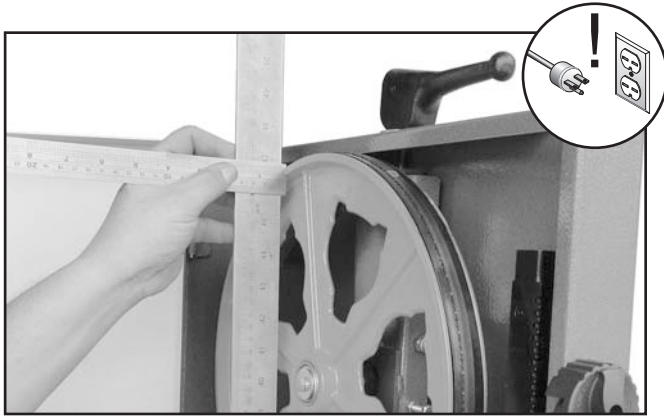

Figure 50. Measuring wheel difference.
3. With the straightedge touching both points of the wheel that does not need to be adjusted, measure the distance away from the incorrect wheel with a fine ruler (see **Figure 50**). The distance measured with the ruler is the distance the wheel must be corrected.